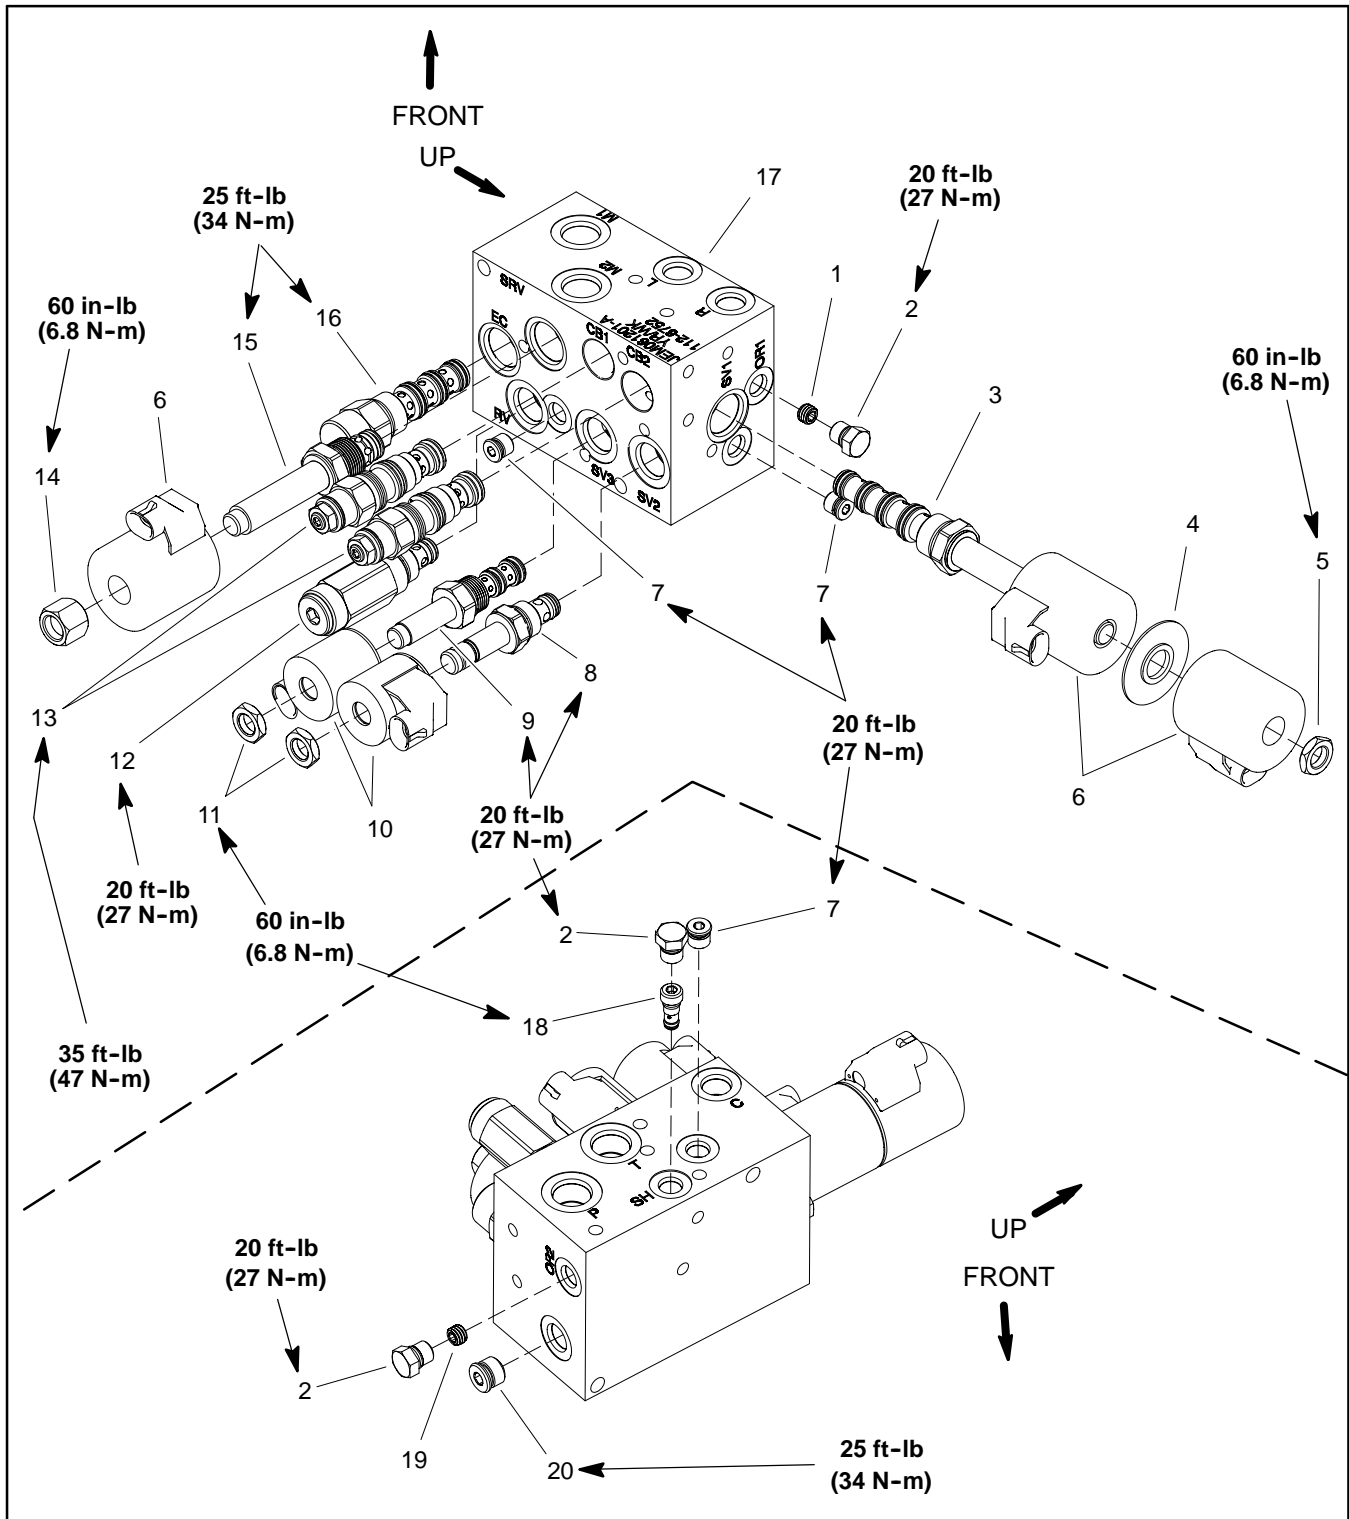

Figure 19
### Hydraulic Manifold Service (Fig. 19)
- C. Torque cartridge valve using a deep socket to valves identified in Figure 19.